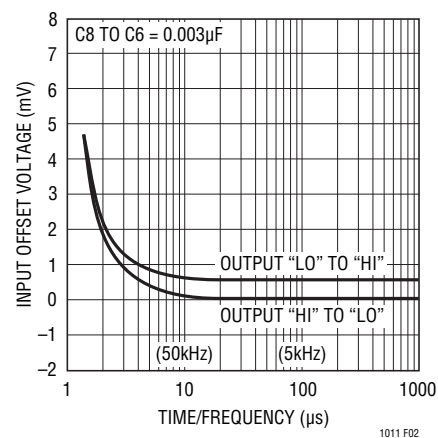

Figure 2. Input Offset Voltage vs Time to Last Transition
This circuit is especially useful for general purpose comparator applications because it does not force any signals directly back onto the input signal source. Instead, it takes advantage of the unique properties of the BALANCE pins to provide extremely fast, clean output switching even with low frequency input signals in the millivolt range. The $0.003\mu\text{F}$ capacitor from Pin 6 to Pin 8 generates AC hysteresis because the voltage on the BALANCE pins shifts slightly, depending on the state of the output. Both pins move about 4mV . If one pin (6) is bypassed, AC hysteresis is created. It is only a few millivolts referred to the inputs, but is sufficient to switch the output at nearly the maximum speed of which the comparator is capable. To prevent problems from low values of input slew rate, a slight amount of DC hysteresis is also used. The sensitivity of the BALANCE pins to current is about 0.5mV input referred offset for each microampere of BALANCE pin current. The 15M resistor tied from OUTPUT to Pin 5 generates 0.5mV DC hysteresis. The combination of AC and DC hysteresis creates clean oscillation-free switching with very small input errors. Figure 2 plots input referred error versus switching frequency for the circuit as shown.